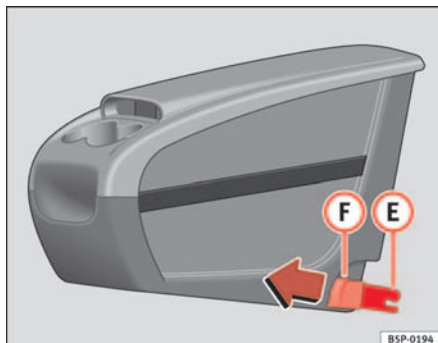
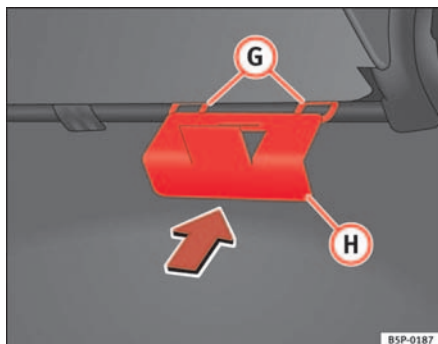

Fig. 110 Mobile stowage compartment installing
Fig. 111 Mobile stowage compartment mounting plate
- Fit the mobile stowage compartment mounting plate (H) ⇒ fig. 111 from the inside of the vehicle, through the rear section of the seat. It should be fitted between the back rest and the seat, in the central seat area.
- Set both mounting pieces together (E) ⇒ fig. 110, with both mounting rings (G) ⇒ fig. 111 and press hard until both the clips completely connect with the rings.
- Pull each of the buttons ⇒ fig. 110 (F) on the clips (red buttons) forwards, until they snap out of place.